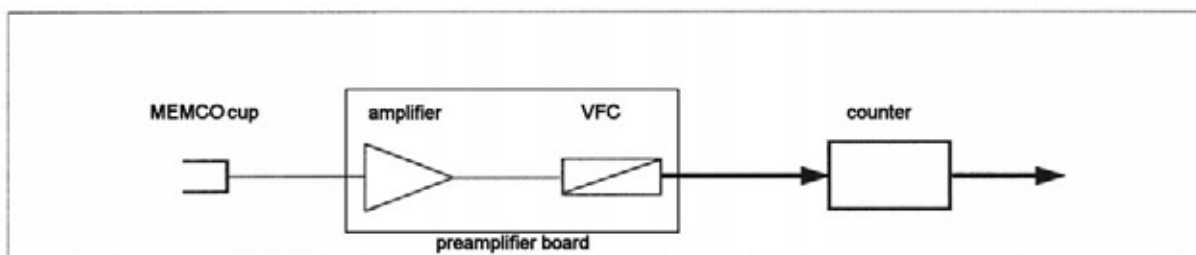

Figure 2-10. Components forming a measuring channel
The collector system is installed in the collector system housing (see Figure 2-1 on page 2-2, pos. 6). For HD isotope analysis, an optional collector system with two Faraday collector cups and amplifiers is available. The HD collector system is also installed in the collector system housing. Each collector cup has its own amplifier and the feedback resistor of the amplifier can be matched to the abundance of the isotope to be collected in this cup (see Table 2-1 on page 2-19). Each collector cup and its amplifier are connected to a voltage-to-frequency converter (VFC). The amplifier and the VFC are located on the preamplifier board. There are three or six VFCs for the MEMCO or universal triple collector system and two VFCs for the HD collector system available. They are allotted to one of the eight counters, so forming a measuring channel as shown in Figure 2-10.